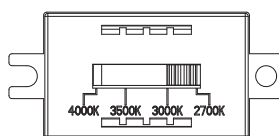

Fig.4 ON/OFF Switch
5. Choose between upward or downward illumination based on your application needs using the individual on/off switch located in the canopy (Fig.4)